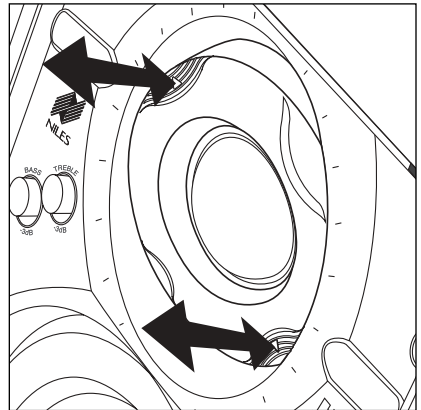

Figure 20
3. Pivot the tweeter on both speakers equally by depressing the housing at the arrows until the desired angle is achieved (See Figure 20).